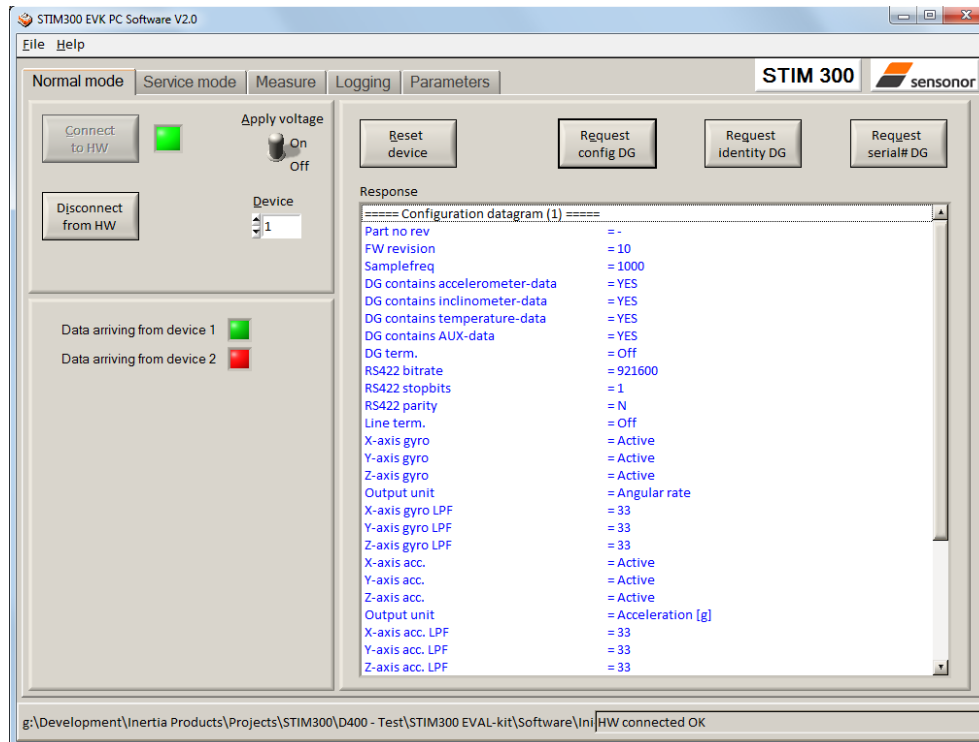

Figure 15: Result of sending 'Request config DG' to the IMU
9. A green LED (Data arriving from device n) indicates that data is received from the gyro module(s). Verify the communication to module by clicking on the 'Request config DG' button. An example of such a result is shown in Figure 15. The system is now ready for use.